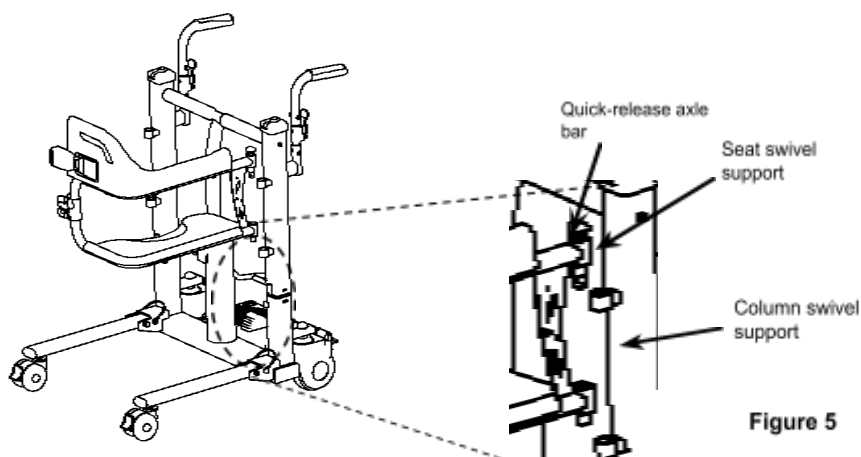

Figure 5
4. To install the seat frame, position the swivel sleeve of the right seat frame directly above the swivel sleeve of the right column tube of the support. Carefully align the holes and press the quick-release axle switch to fix the right seat frame in place, as shown in Figure 5. After installation, check whether the seat frame is well adjusted, with no visible gaps, and that it rotates smoothly and flexibly. The left seat frame can be installed using the same procedure.